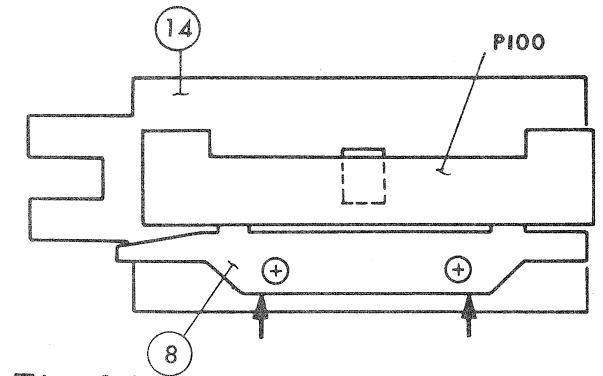

Fig.31
1. Replace ⑭ if it has scratch or/and abrasion
2. Apply the film guide aperture installing gauge (P 100) to ⑭, as shown in Fig. 31, and press ⑧ in the direction of arrow mark to install it parallel to the rail ⑭.